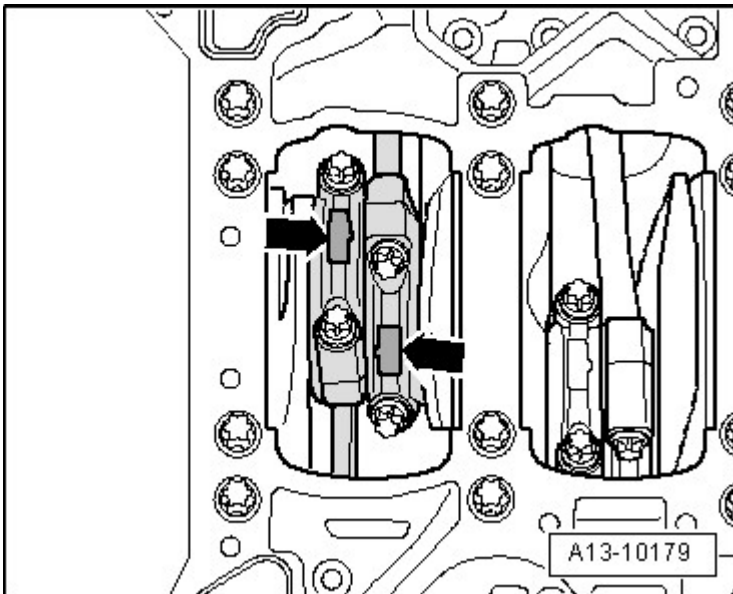

Fig. 14: Connecting Rod, Installed Location
- Installation position of connecting rod pairs, refer to **Fig. 14**